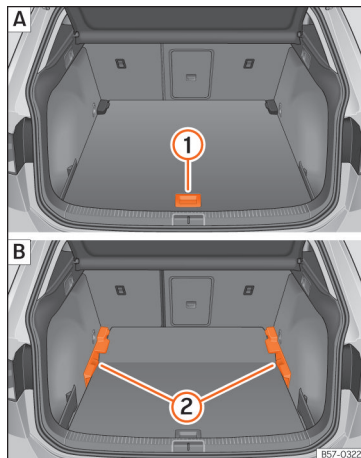

Fig. 180 Variable boot floor: **A** raised position; **B** lowered position.
- To move from the low position to the high position, lift the floor using the handle »» Fig. 180 ①, and pull it back until the front of the floor has fully passed the supports ②.
- Move the floor forward over the supports as far as the rear seat backrest and then lower the floor with the handle ①.
- To move from the high position to the low position, lift the floor using the handle »» Fig. 180 ①, and pull it back until the front of the floor has fully passed the supports ②.
- Now let the front part fall to the floor and slide the floor forwards as far as the rear seat backrest; lower the floor at the same time with the handle ①.
- Lift the variable floor in the high position using handle »» Fig. 180 ①, pull it up and push it towards the backrest of the rear seats until the floor folds along the hinge line and the movable part of the floor is resting on itself.
- To move from the high position to the low position, lift the floor using the handle »» Fig. 180 ① and pull it back a little.
- Push the variable floor towards the folded rear seats with the handle ① using some downward pressure so that the moving part of the floor is flush with the backs of the rear seats.